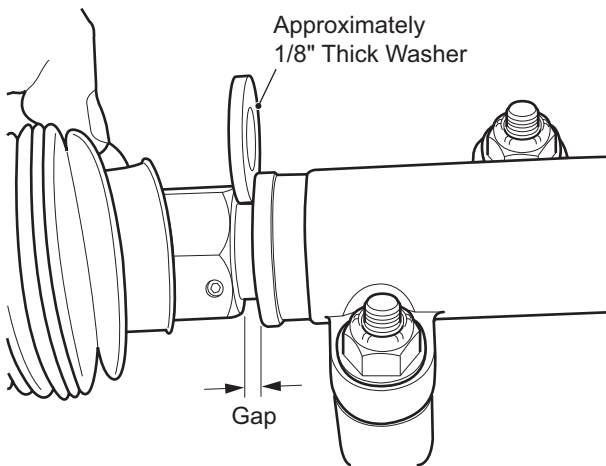

Fig. 18 Checking Gap
- With the spindle arm resting against front axle, cut the wire tie (52) securing the bellows (65) to the rack and pinion unit.
- An 1/8" gap should exist between the large hex and the end of the rack and pinion unit (Ref Fig. 18).